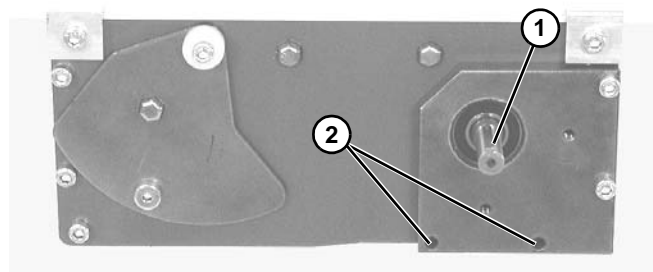

Figure 7
3. Locate drive output shaft (**Figure 7, item 1**) and remove two (2) screws (**Figure 7, item 2**).